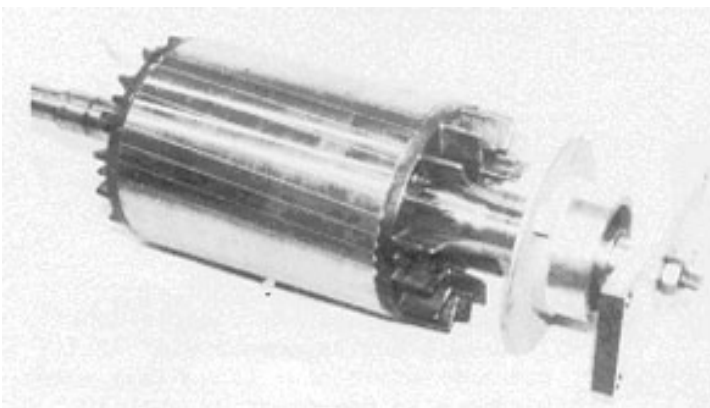
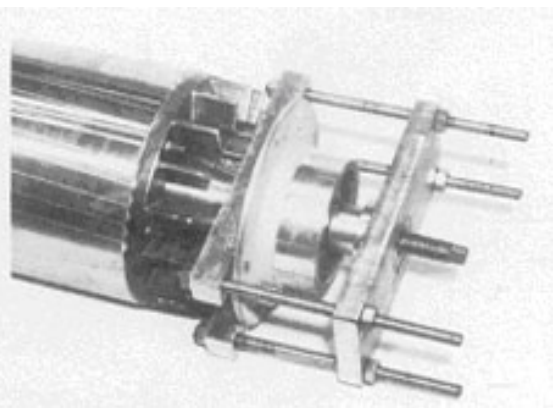

Fig 7
Fig 8
The following figures shows the pump assembly (except for figures 7 and 8 which are showing specials disassembly tools) . For disassembly proceed in reverse order .
- Set the bearing housing complete (See page 19) on the rotor end **Fig 7** and secure it with retaining ring P/N W50553. Note : dismantling of bearing housing cpl . **Fig 8** .